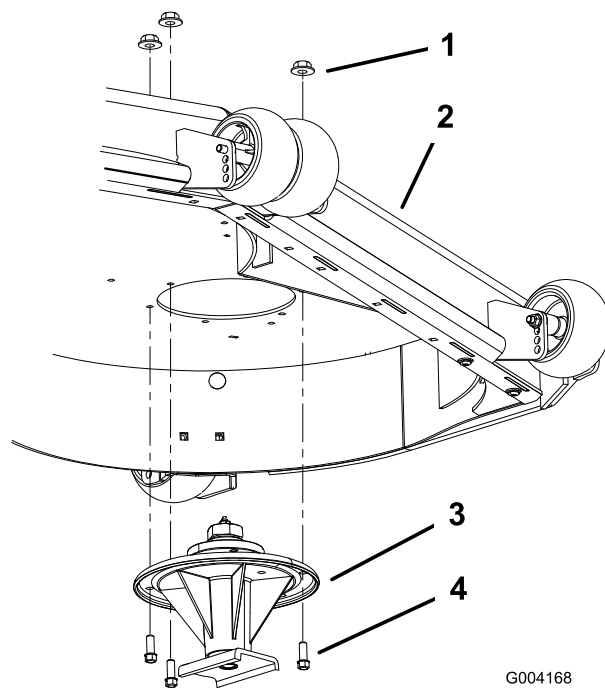

Figure 2
1. Install the spindle assembly under the mower deck with the previously removed bolts (Figure 2).